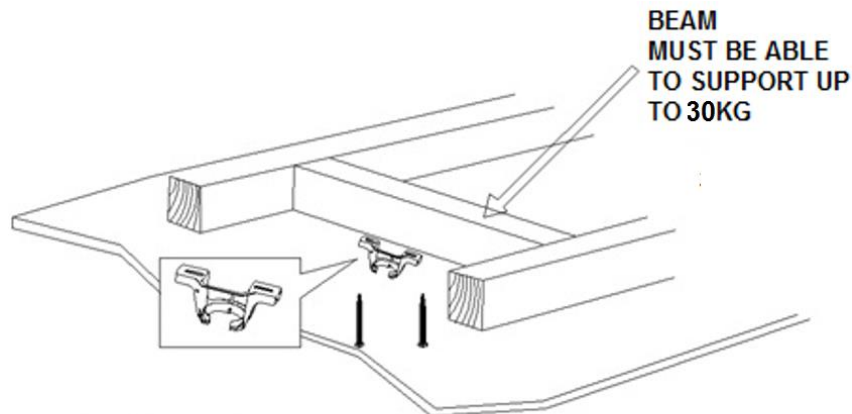

Fig. 2
- Install the hanging bracket to the ceiling joist or structure that is capable of carrying a load of at least 30kg, with two long screws provided. Ensure at least 30mm of the screw is threaded into the support. (Fig. 2)